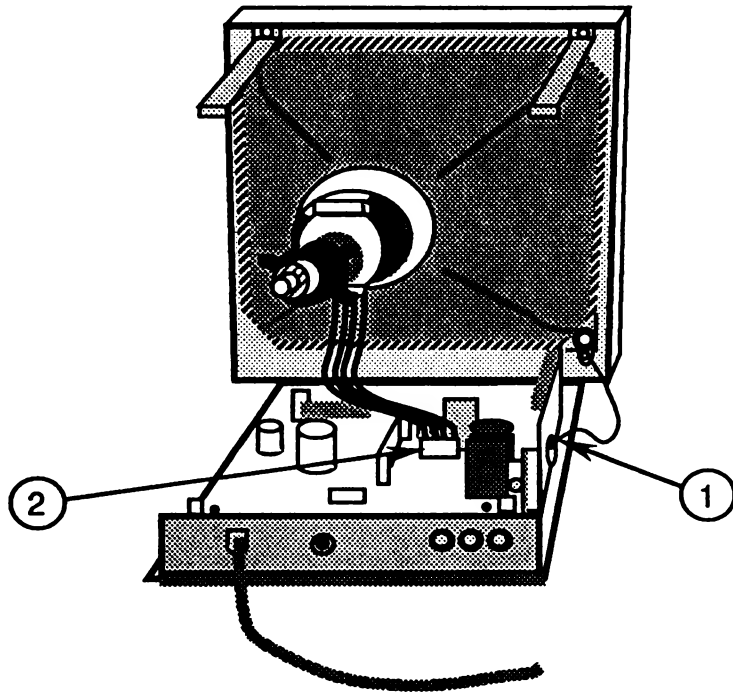

FIGURE 49
10. Reconnect the CRT connector (red/blue/yellow/green) to the logic board (Figure 49, #2).
13. Replace the single screw (Figure 49, #1) that secures the green CRT ground wire to the side of the monitor chassis.